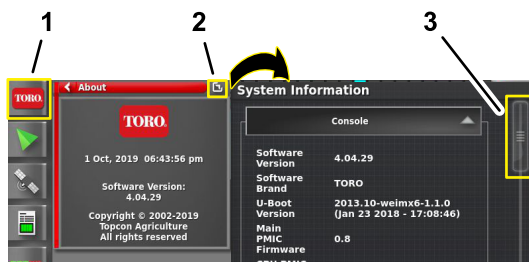

Figure 284
- Press the SYSTEM INFORMATION icon, and then swipe the FULL SCREEN icon in the upper right corner of the system information window (Figure 284).